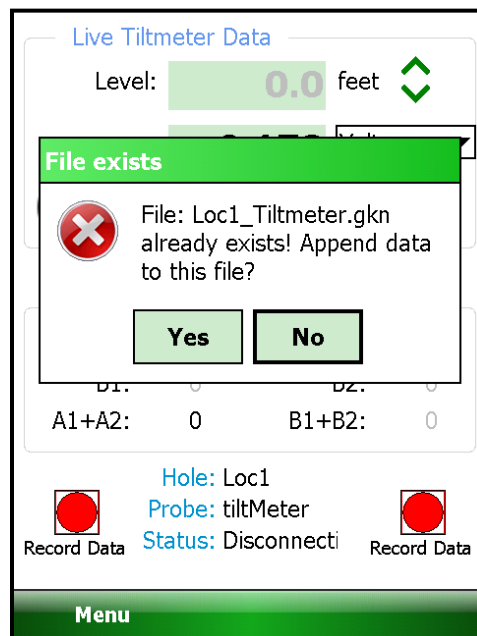

Figure 124 - File Exists Dialog
- 9) After tapping “Save”, the GK-604D IRA will determine if the file exists. If this is a new file, then the data will be written to it in a format similar to the standard Inclinometer format. If a file of the same name already exists, then the dialog shown in Figure 124 will be displayed.